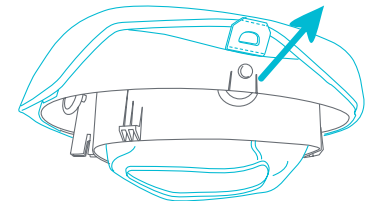

Fig. 7a
- To remove the seat fabric for maintenance, pull out all the plates from the tabs on the seat base (Fig. 7a).